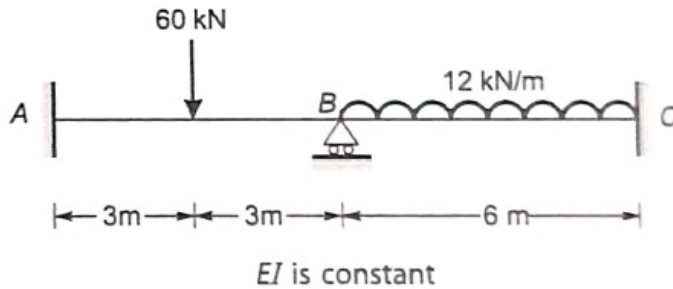

Fig 4
- (c) Calculate the final end moments for continuous beam as shown in Fig 4 using the slope deflection method. 07